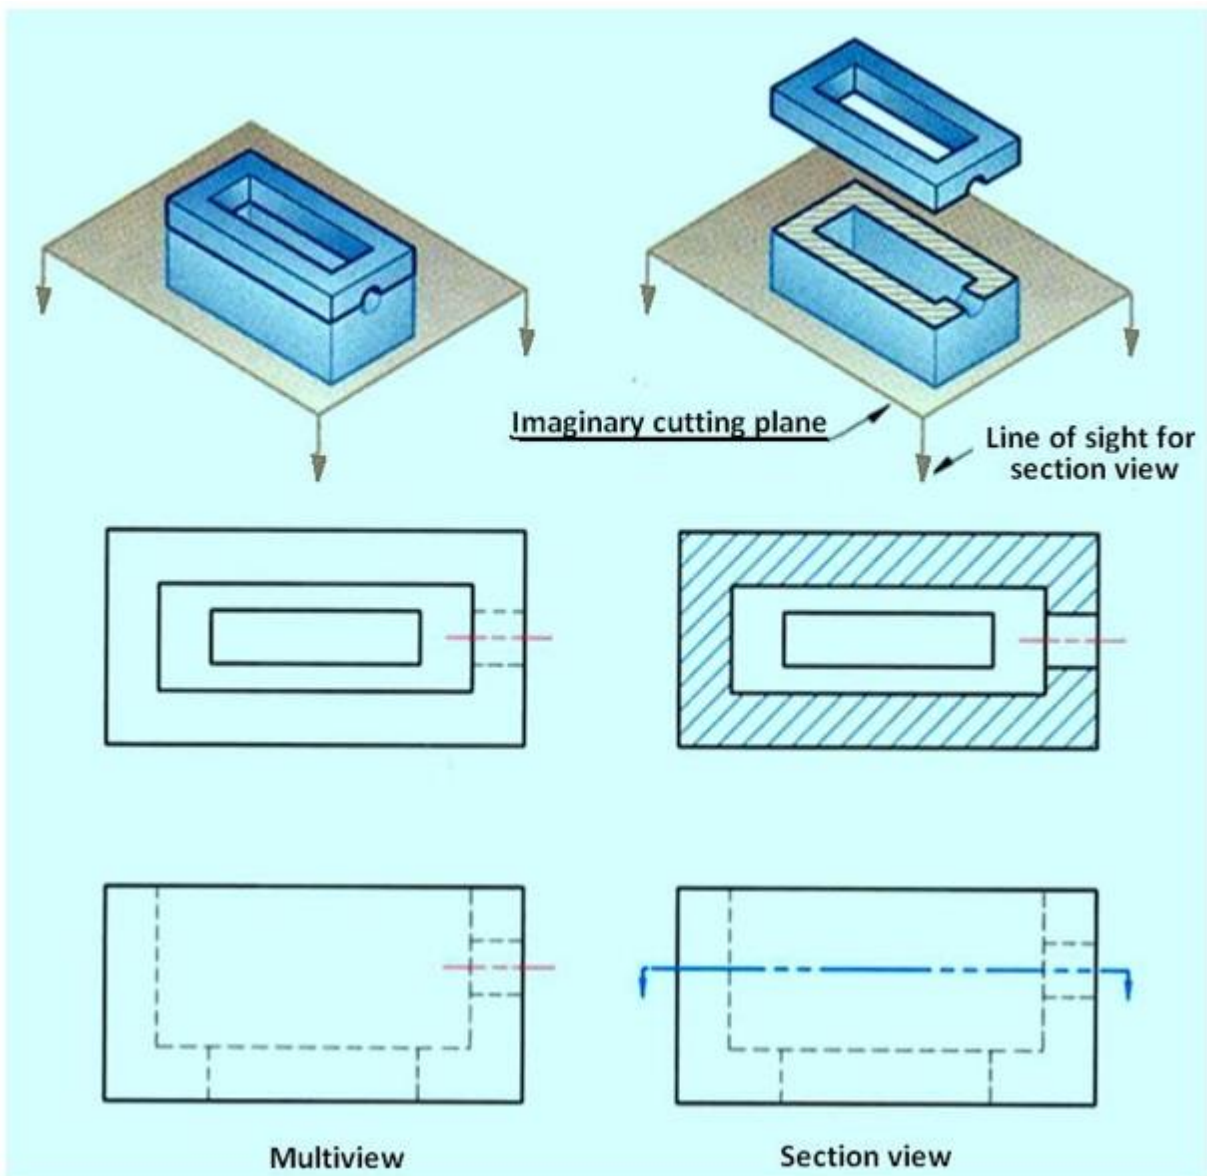

Figure 13. A horizontal cutting plane.
- If the cutting plane appears as an edge in the front view and is normal in the top view, it is a horizontal cutting plane. The top half of the object is "removed" and the top view is drawn in section. Figure 13 shows a horizontal cutting plane.